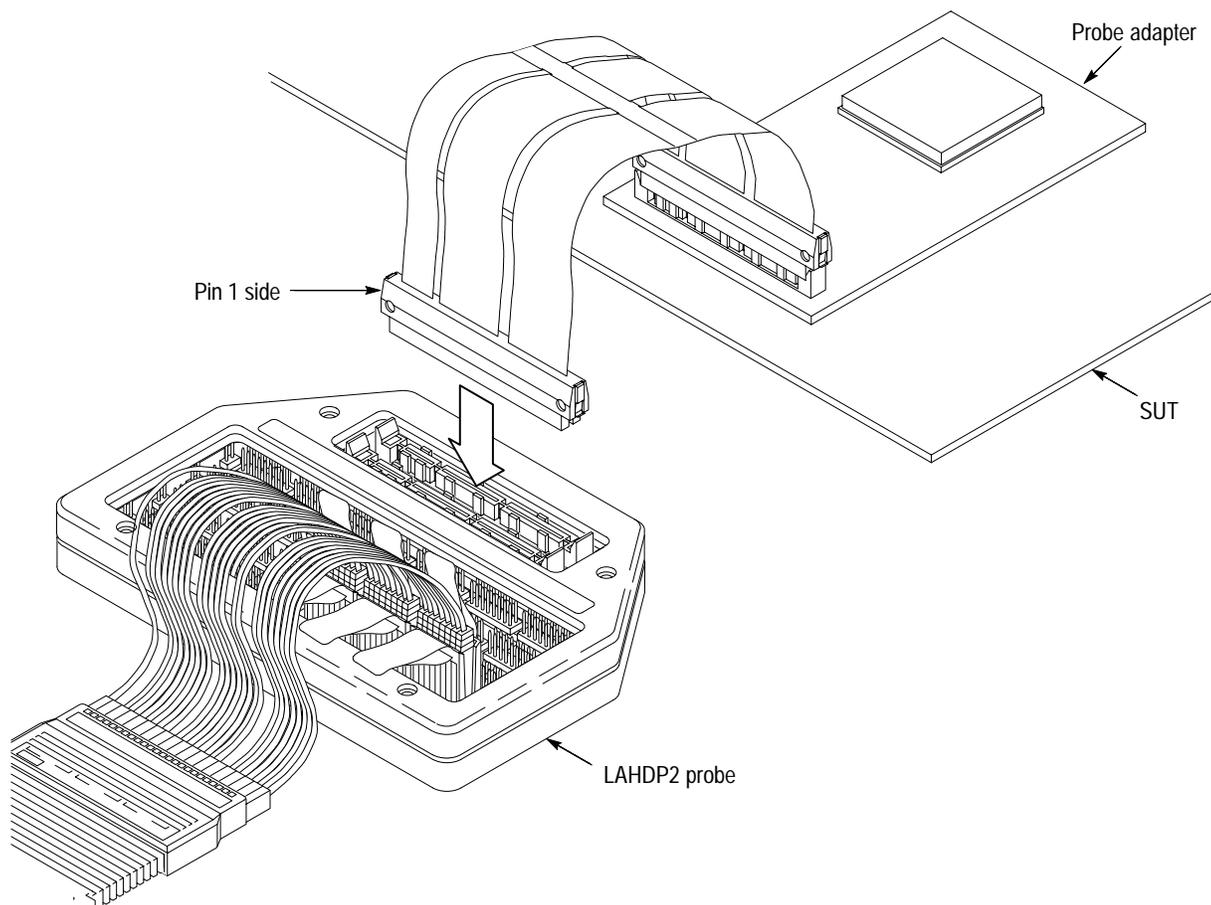

Figure 1-4: Connecting the LO cable to an LAHDP2 probe
- 10.** Align pin 1 on the LO cable connector, the end on the narrowest cable strip of the cable, with pin 1 on the LO connector on the LAHDP2 probe. Connect the cable to the connector as shown in Figure 1-4.